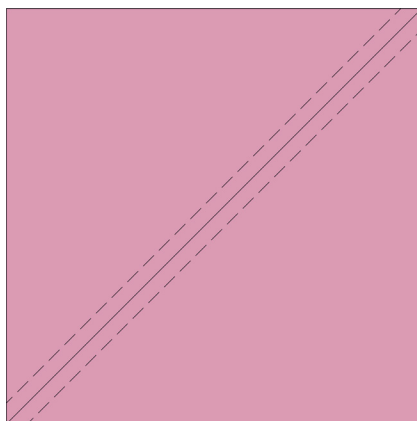

Figure 3
2. Place one Fabric B and one Fabric C square right sides together. Pin as desired. Use a scant 1/4" seam allowance to stitch on either side of the drawn line. (Figure 3)